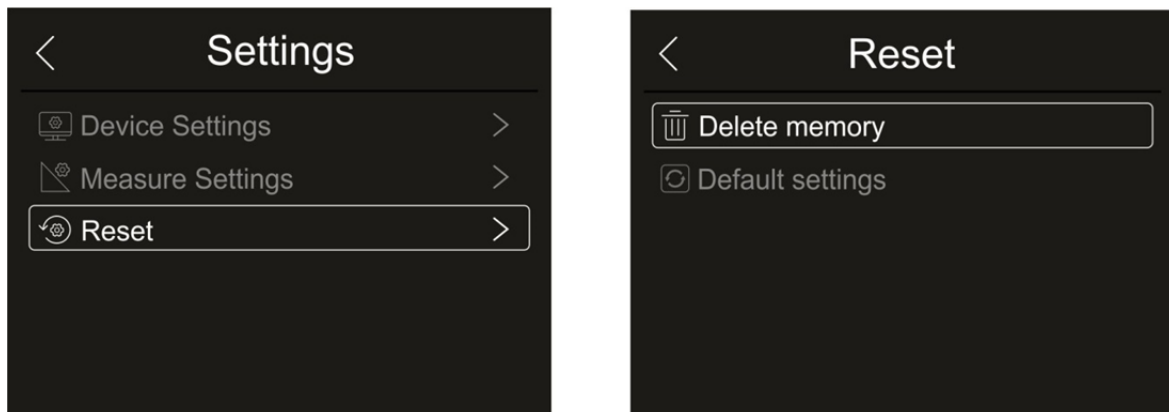

Fig. 30: Instrument reset menu
1. Touch the item “Reset”. The screen in Fig. 30 – right side appears on the display. Touch the item “Delete memory”. The following confirmation screen is displayed: